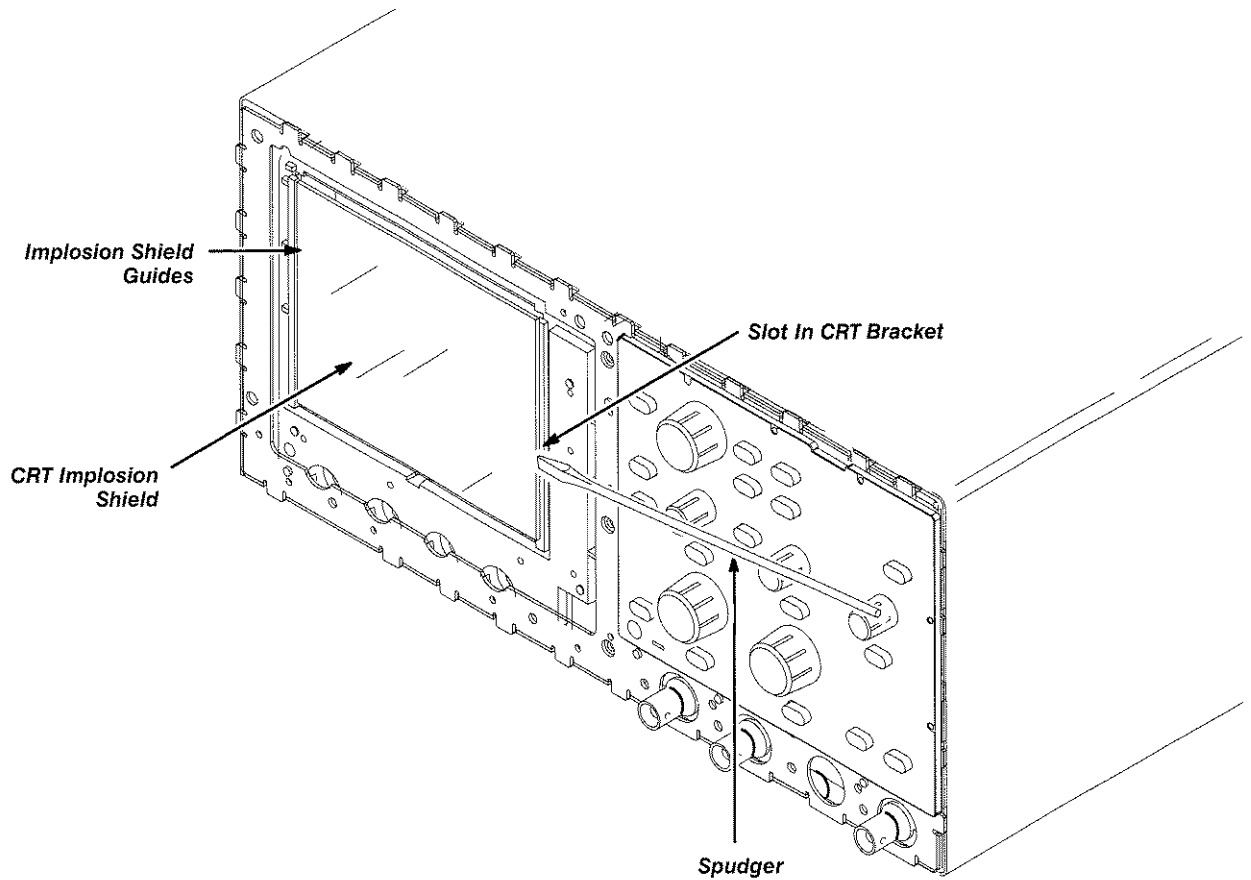

Figure 8-14: CRT Implosion Shield Removal
1. From the front of the Implosion Shield, slip the spudger into the slot provided on the side of the CRT Front Bracket. See Figure 8-14.